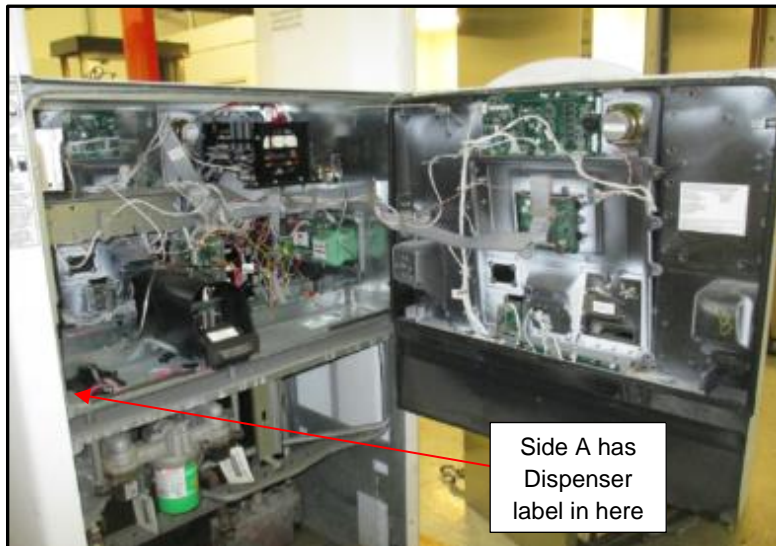

Fig 1.3a – Main Dispenser Door in fully opened position
5. Unlock the main dispenser door lock located on the upper left-hand side of the Main Dispenser Door using the “CH 751” key. Open the door until it locks into its fully open position. (Fig 1.3a)